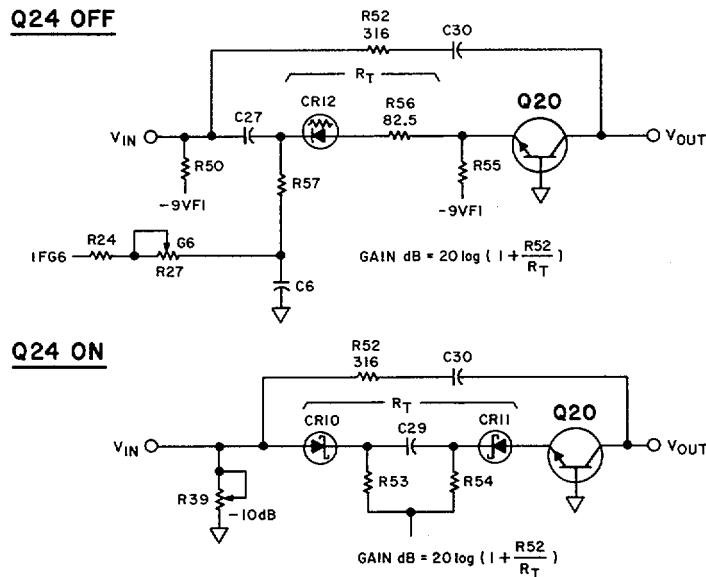

Figure 8-36. Simplified Log Amplifier Stage
**Log Amplifier Gain.** The operation of the second stage is described. In the log mode of operation, Q24 (Gain Control Lines circuit) is on, forward biasing the log diodes, CR10 and CR11, which are Schottky diodes with a forward bias voltage of approximately 0.4V. The gain of the amplifier is set by the ratio of R52 to the total resistance RT between the emitters of Q13 and Q8. An example of gain computation is shown in Figure 8-36 RT is at a minimum (approximately 150 ohms) for small signals when the ac signal current in log diodes CR10 and CR11 is small compared to their dc bias current. As the ac signal level is increased, the ac signal current increases to the level of the dc bias current and RT increases because of current limiting in the diodes.